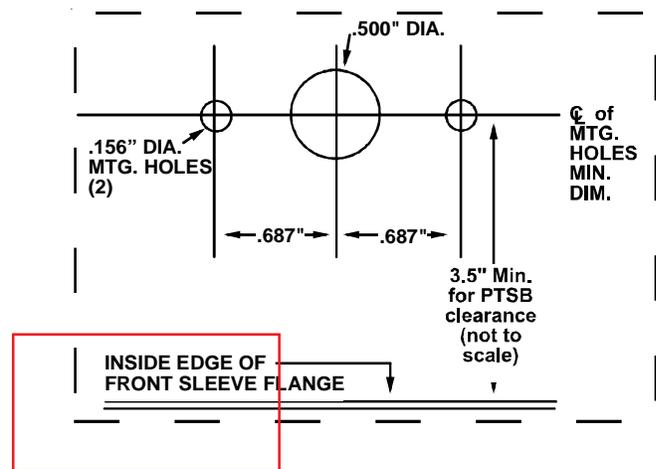

Figure 5
2. Cutout the template in Figure 5. Using this template, locate and drill the drain kit holes as close to the outside wall as possible.